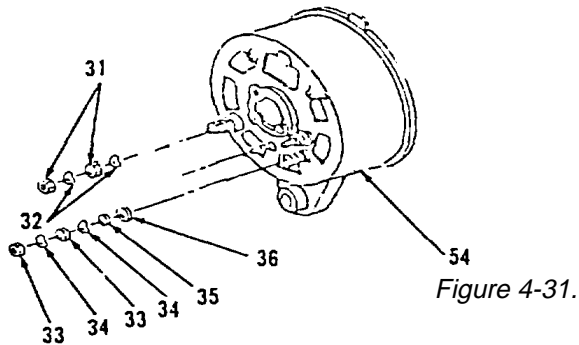

Figure 4-31.
- 8. Test stator (28, Figure 4-31) for windings continuity. Using ohmmeter, take three readings between pairs of the three stator (28) wires. Replace if readings are not 0.15 to 0.25 ohm.
- 9. Test stator (28) for shorts to frame. Using ohmmeter, touch one lead to stator (28) frame and touch the other to each of the three stator (28) wires. Readings should be very high. If not, replace stator (28).